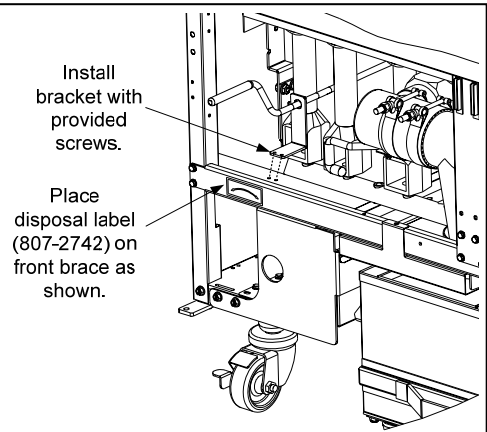

Figure 5: Front View
10. Slide bracket onto the dispose handle rod. Attach the bracket from the bottom into the horizontal brace, using the existing holes and the provided screws. See Figure 5. (**Note:** It may be necessary to drill two 9/32" pilot holes to attach the screws.)
11. Attach the oil disposal label (807-2742) to the front cross brace. See Figure 5.